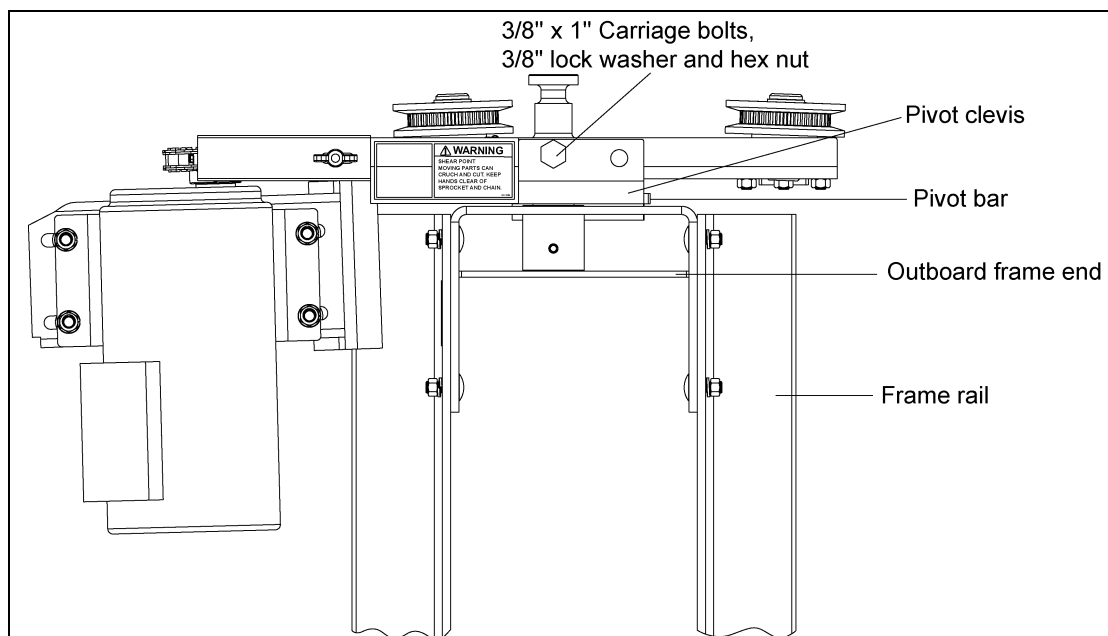

Figure 4L Double and Triple Auger
1. To assemble the Design III Stir-Ator, place the frame rails on two (2) sawhorses and remove the two (2) 5/16" bolts holding the frame rails together, spacing them approximately 8".
2. **For Double and Triple Auger Units:** Bolt outboard frame end and track unit assembly to the frame rails using six (6) 3/8" x 1" carriage bolts, 3/8" lock washers and hex nuts. Tighten with the socket head on an impact wrench and use a hand wrench where necessary. (See Figure 4L.)